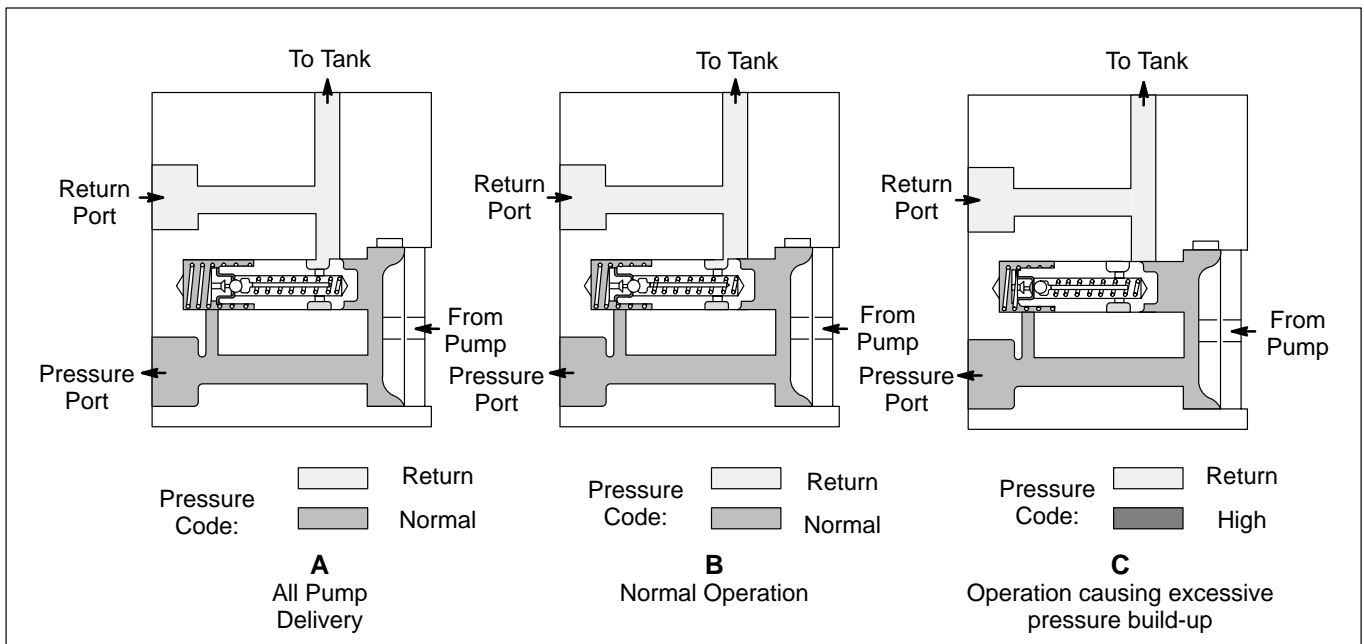

Figure 4.
2. When all pump delivery can pass through the restriction to the load, the spool is held in the closed position by the large spring (2) and passage C is blocked from chamber B. This is the condition illustrated in Figure 4-A.
3. When pump delivery is greater than the flow rate determined by the restriction (D), a pressure build-up in chamber B forces the spool open against the large spring force. Excess fluid is throttled past the spool to passage C and back to inlet, as shown in Figure 4-B.
4. Figure 4-C shows the condition when pressure in the system builds up to the relief valve setting. Pressure is transmitted through sensing orifices G and H and forces the ball (4) from its seat. Fluid flow is then from chamber B, through orifice D, passage E, orifices G, H and J to passage C and to inlet. The pressure drop across restriction D resulting from this flow causes a differential pressure on the spool ends and the spool is shifted against the large spring, permitting the remainder of pump delivery to flow from chamber B to passage C.